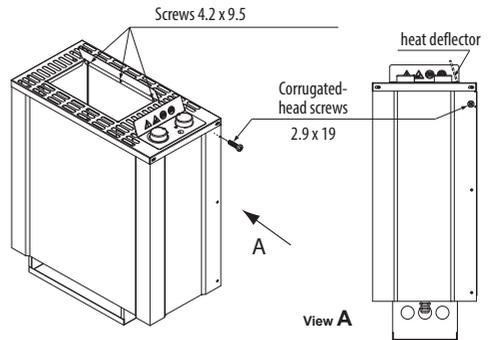

Fig. 6
6. Secure the sauna heater against the wall using the 4 screws through the borehole on the back edge of the stove (Fig. 2+5) or on the side using the lock screws 2.9 x 19, as shown in Fig. 6.
7. As shown in Fig. 6, screw tight the enclosed heat deflector using the 3 screws 4.2 x 9.5 and the two lock screws.